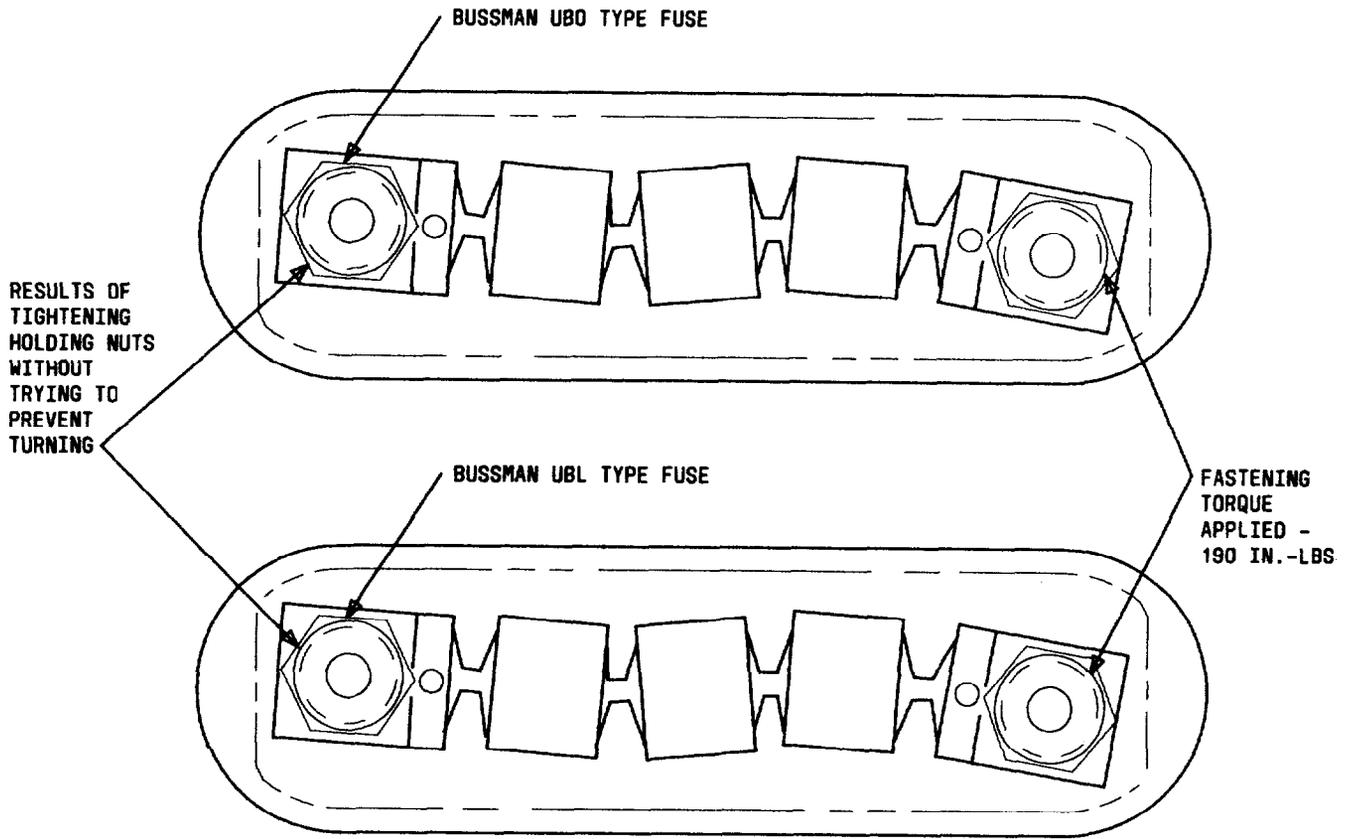

Fig. 3—Link Fuse Holders for KS-19392 Fuse and Switch Panels and KS-19393 Fuse Blocks (Fuse Holding Nuts in Place and Tighten)
- (2) If the temperature exceeds the specified limits, refer the matter to the supervisor.
- (3) Any clips showing signs of having been overheated (blue or burned) should be replaced in accordance with Section 026-370-801.
4.06 Link-Type Fuses: Warning: The KS-19392, L12 through L16 [UBL-type fuses (Mfr Disc. and UBO-type)] must be kept from turning when tightening the holding nuts. This will prevent stress and fracture of the fusible links (Fig. 3). The clamping nuts holding the KS-19392, L12 through L16 [UBL- (Mfr Disc.) or UBO-type] link-type fuses into the fuse panel, should be torqued to 190 inch-pounds using the B-torque wrench. This will sufficiently tighten the link-fuse.